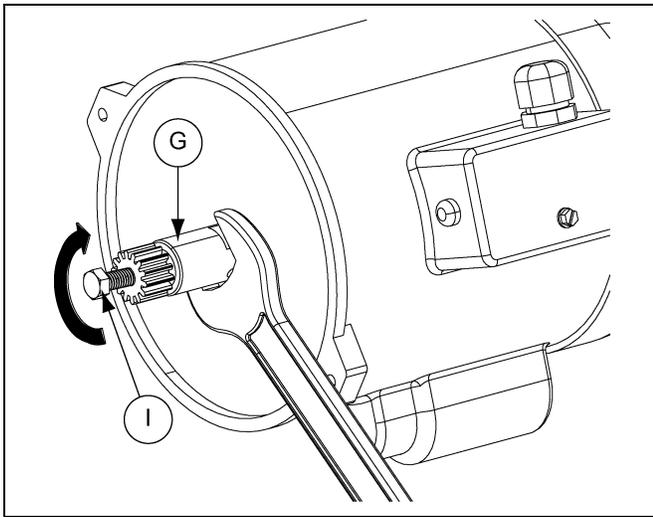

Figure 5AC
- Hold the pinion with a wrench and install a 3/8"-16 x 2-1/2" or longer bolt (I) into the end of the pinion and turn until the pinion is released from the shaft. (See Figure 5AC.)